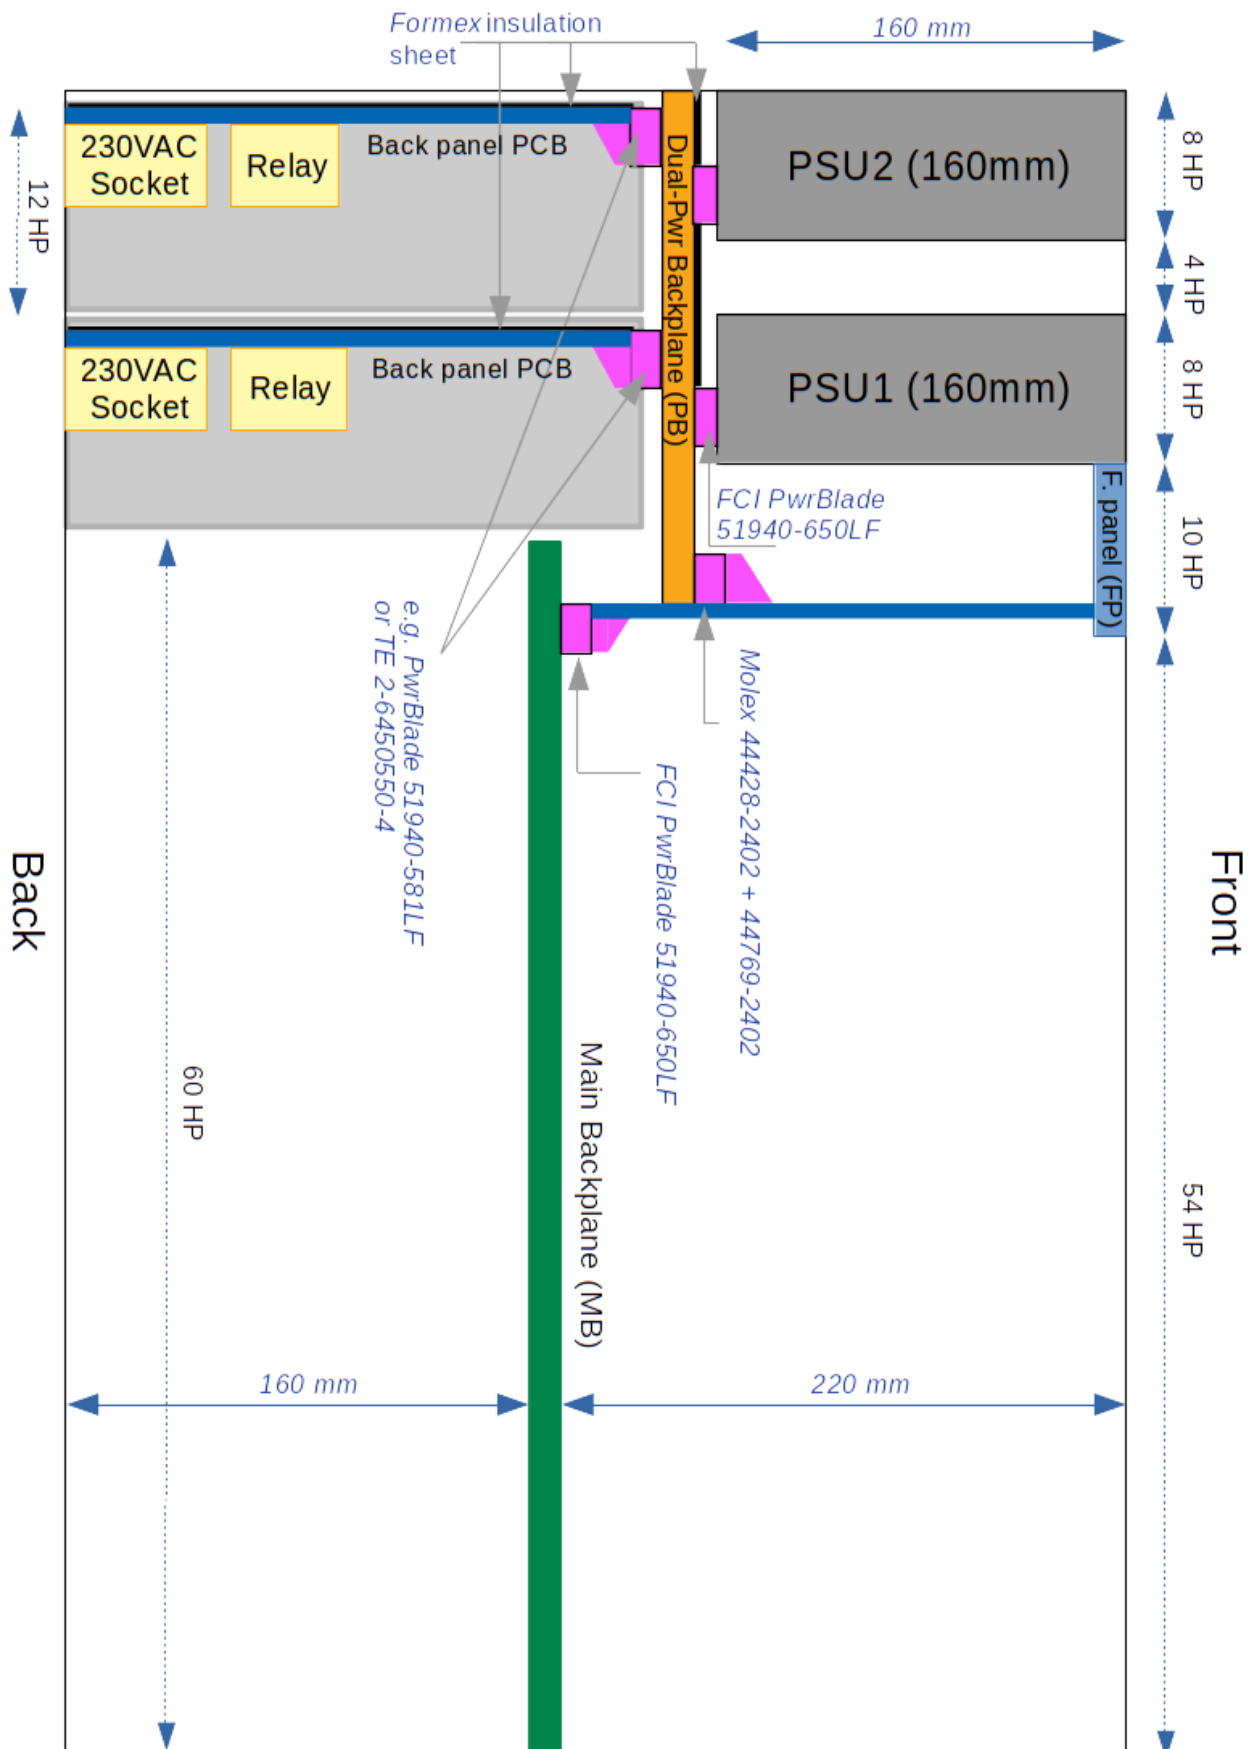

Figure 2: DI/OT crate mechanics v2.0
Figure 2 presents a conceptual design of DI/OT crate mechanics v2.0. The following modifications shall be applied to the mechanical design with respect to DI/OT crate v1.x:
7. The length of the backplane shall be extended to fit the 3-board assembly (Power Backplane, Front Panel PCB, Main Backplane) in Figure 2. This might require displacement of the current Ext PSU connector in the back of the MB to avoid collision with the new Utility Connector in the front.
14. The length of the backplane shall be modified to fit the 3-board assembly (Main Backplane, Power Backplane, Front Panel) in Figure 2.
4. ESD plug shall be connected through 1M Ω resistor to the chassis (PE) (<https://ohwr.org/project/diot-crate-hw/issues/15>).
7. Expand PCB length to 220mm to fit the 3-board assembly (Power Backplane, Front Panel PCB, Main Backplane) in Figure 2.